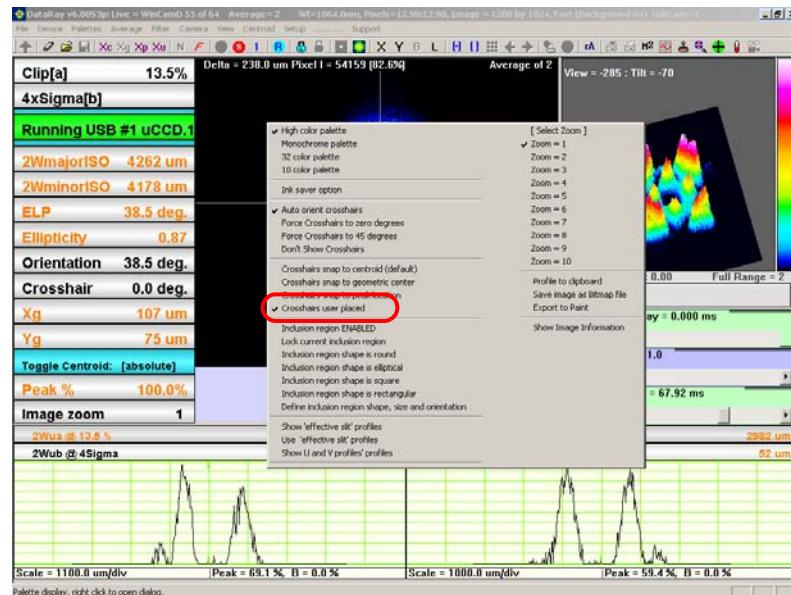

Figure 6.53 User-defined cross wires
29. Define the cross-wires in the WinCam software as user-defined (see figure 6.53). This results in the coordinates of the cross wires being held at a fixed point. To do this, click with the mouse in the center of the projection. The lines of the cross wires follow the mouse and are fixed.